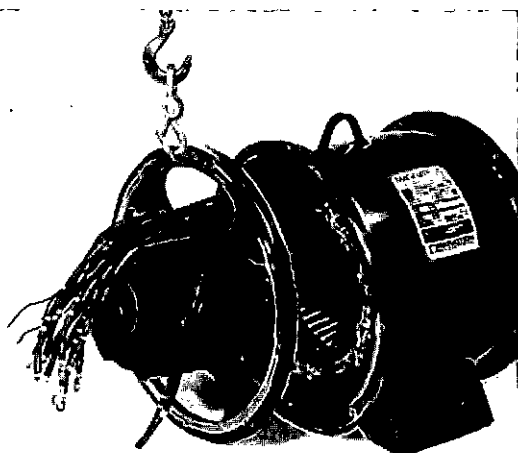

FIGURE 6-20
2. Remove the front end bracket from the main stator assembly. (Figure 6-20.)